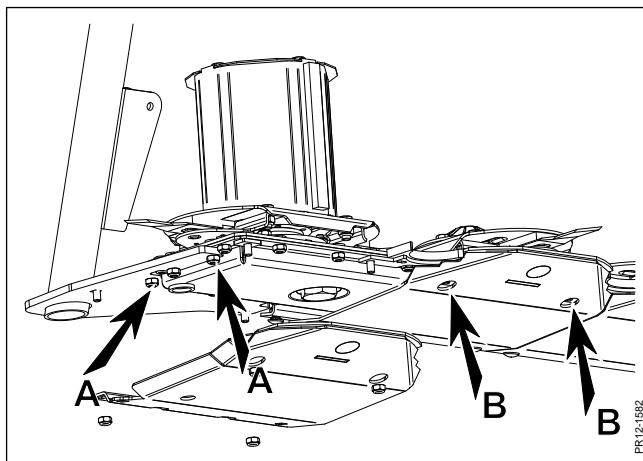

Fig. 5-4
**Fig. 5-4** To avoid damage caused by vibrations in the cutting unit, the cutter bar must be fastened correctly to the frame. This must be checked at regular intervals. In order to check this the outermost guide shoes must be dismantled. The nuts on the bolts, **A**, which fix the cutter bar to the frame must be retightened.